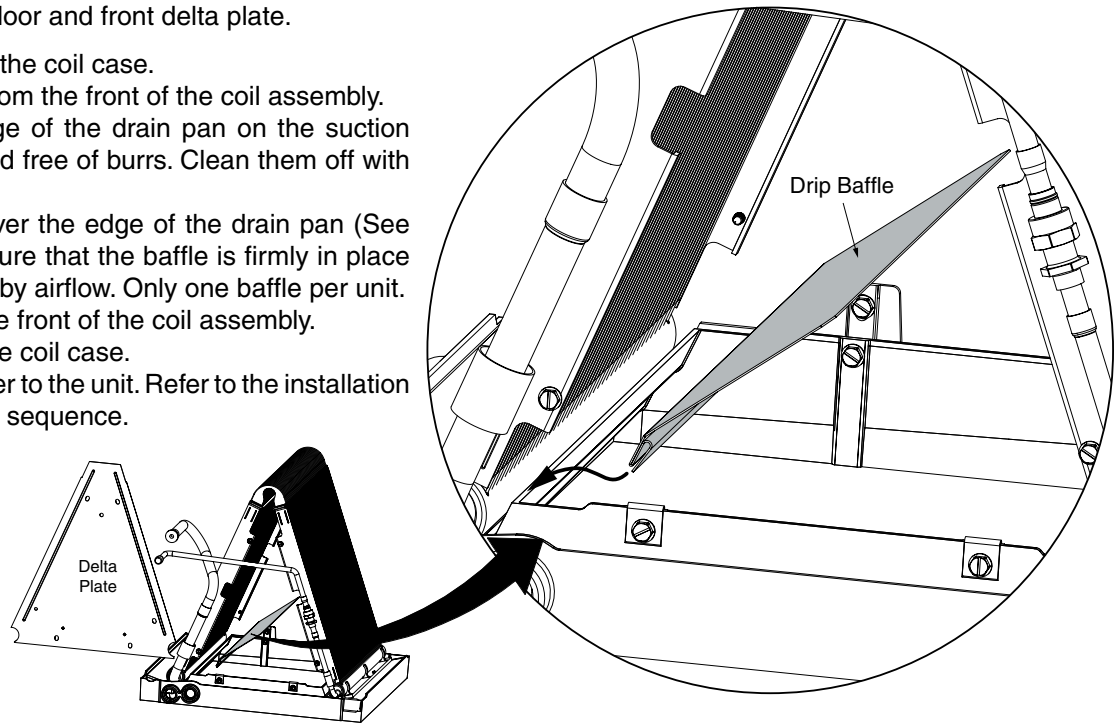

Figure 1. Drip Baffle Installation
5. Firmly press the baffle over the edge of the drain pan (See Figure 1). **NOTE:** Make sure that the baffle is firmly in place and will not be dislodged by airflow. Only one baffle per unit.